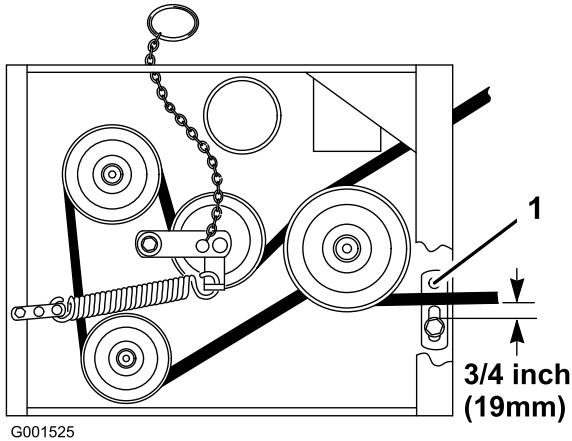

Figure 56
8. Check the belt guide under the engine frame for proper adjustment (Figure 56).
Note: The distance between the belt guide and the mower belt should be 19 mm (3/4 inch) when you engage the mower belt (Figure 56). Adjust the mower belt as necessary. The disengaged belt should not drag or fall off the pulley when the guides and belt tension are properly adjusted.